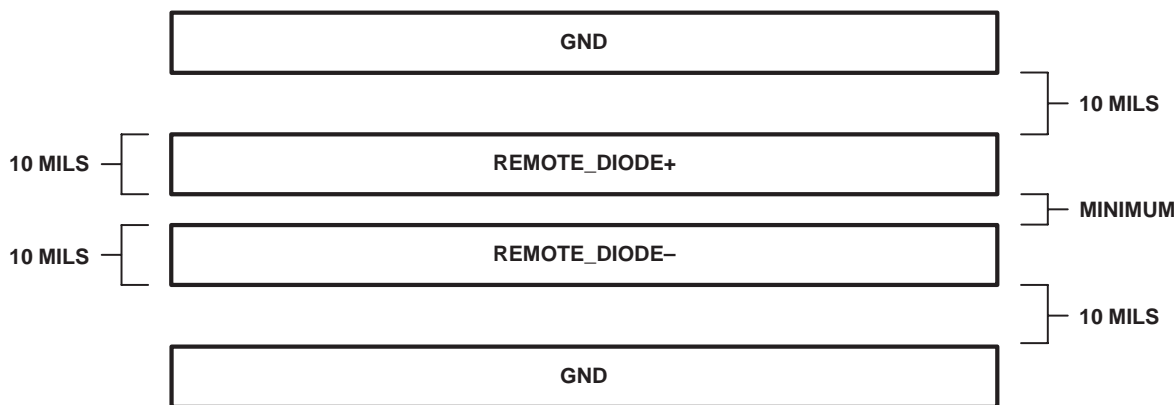

Figure 13. Recommended PC Board Layout for Remote Diode Traces
- Connect guard traces to GND on either side of the remote diode traces (Figure 13). With guard traces in place, routing near high-voltage traces is not an issue.
- Use wide traces, as narrow ones are more inductive and tend to pick up radiated noise. The 10-mil widths and spacings recommended in Figure 13 are not absolutely necessary (as they offer only a minor improvement in leakage and noise), but usage is recommended where practical.